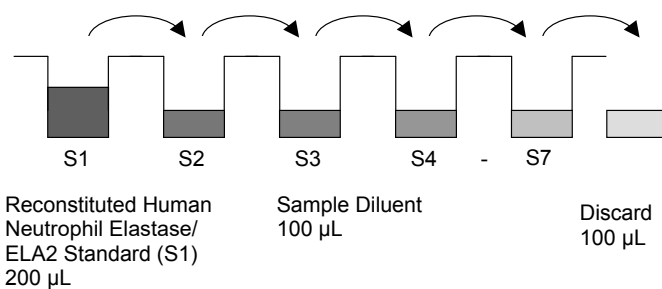

Fig. 7 Dilute standards - microwell plate
3. Standard dilution on the microwell plate (Alternatively the standard dilution can be prepared in tubes - see "External standard dilution" on page 3): Add 100 µL of Sample Diluent in duplicate to standard wells B1/2-G1/2, leaving A1/A2 empty. Pipette 200 µL of prepared standard (see Preparation of Standard "Human Neutrophil Elastase/ELA2 standard" on page 3, concentration of S1 = 10.00 ng/mL) in duplicate into well A1 and A2 (see Table 1). Transfer 100 µL to wells B1 and B2. Mix the contents of wells B1 and B2 by repeated aspiration and ejection (concentration of standard, S2 = 5.00 ng/mL), and transfer 100 µL to wells C1 and C2, respectively (see Figure 7). Take care not to scratch the inner surface of the microwells. Continue this procedure 4 times, creating two rows of human Neutrophil Elastase/ELA2 standard dilutions ranging from 10.00 to 0.16 ng/mL. Discard 100 µL of the contents from the last microwells (G1, G2) used.